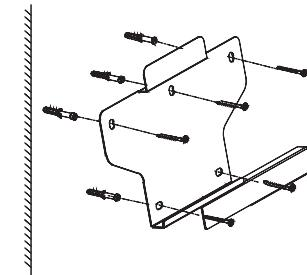

Figure 4-11 Fixing the wall bracket
- ④ Insert the expansion tubes into the holes and tighten them, then fix the bracket onto the wall with expansion screws by using a cross screwdriver, as shown in Figure 4-11: